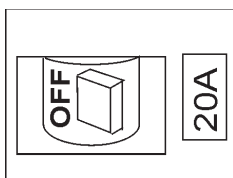

Figure 16. Main Circuit Breaker (ON)
- Place the main circuit breaker (Figure 16) in the **ON** position.